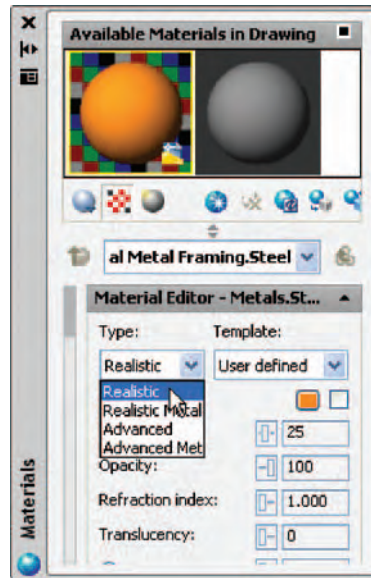

Fig. 15.35 Select **Realistic** in the **Type** drop-down menu
5. *Right-click* in the **Type** field of the **Material Editor** section of the palette and select **Realistic** in the *right-click* menu (Fig. 15.35).